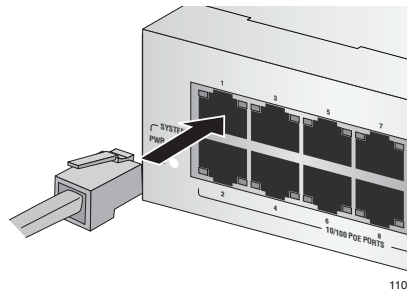

Figure 13. Connecting the Twisted Pair Data Cables
1. Plug the twisted pair data cables to the RJ-45 ports on the switch, as shown in Figure 13.